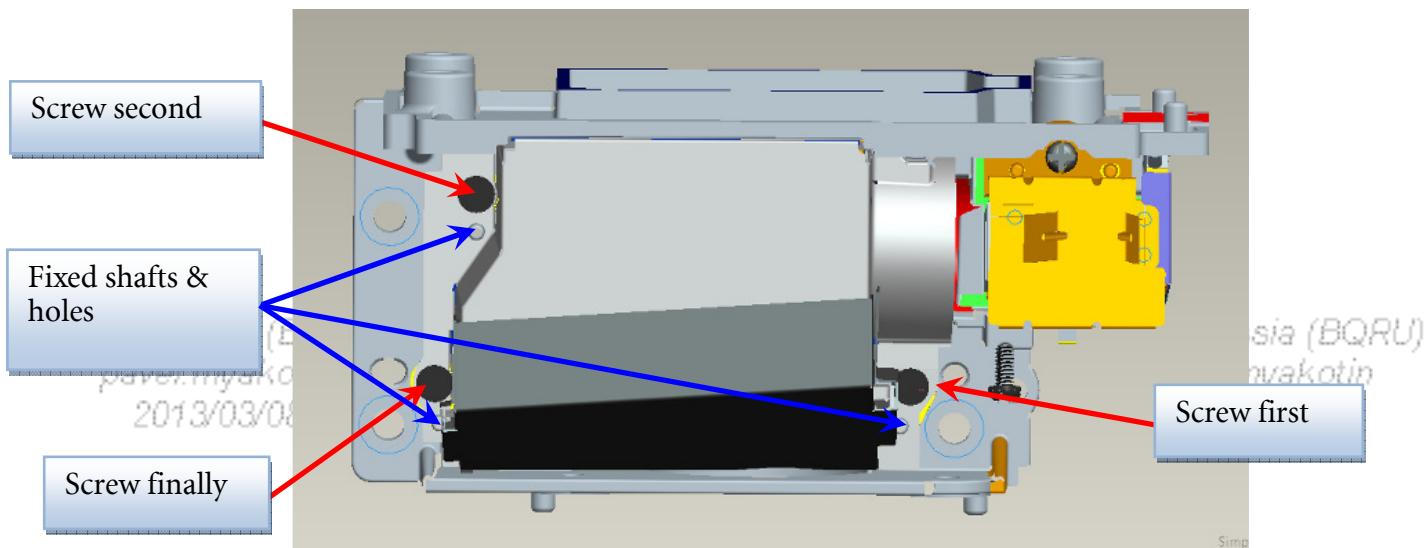

Fig. 3-2
3.2 To assemble "SUB HSG Module" with "HSG DMD" and cover over on "AL" and then lock with screws(Fig. 3-2).